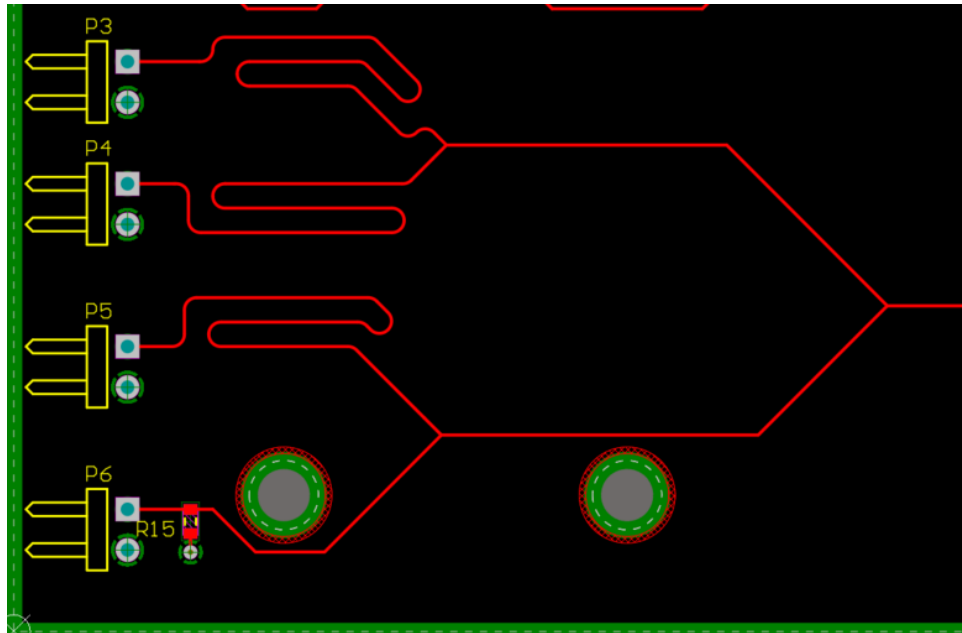

Figure 29. First Trombone length tuning
77. Begin length tuning each route for components P3, P4, and P5, as shown in Figure 29. When the Length Guide Indicator turns green, the routes follow the rule.